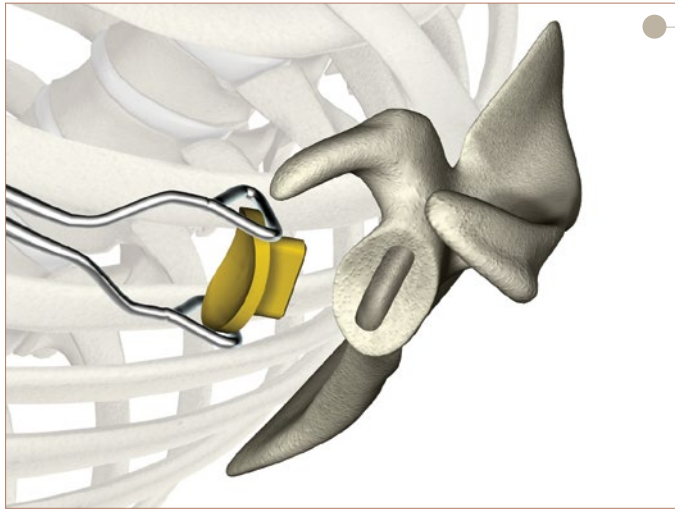

Figure 55
- ▶ A burr can be used to remove approximately 1 mm of additional bone around the margins of the prepared void to cement the entire keeled construct, not utilizing the self-pressurizing features of the keel (Figure 55).